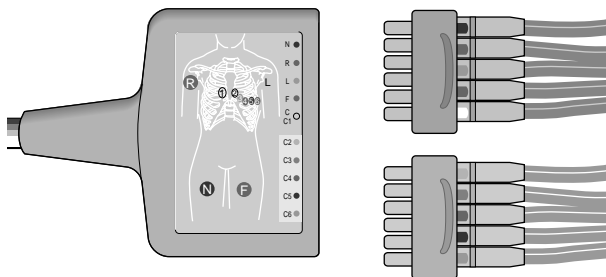

Figure 7-3. Connecting the leadwires to the patient cable
- Connect one (5 electrodes) or both leadwire blocks to the patient cable (Figure 7-3).